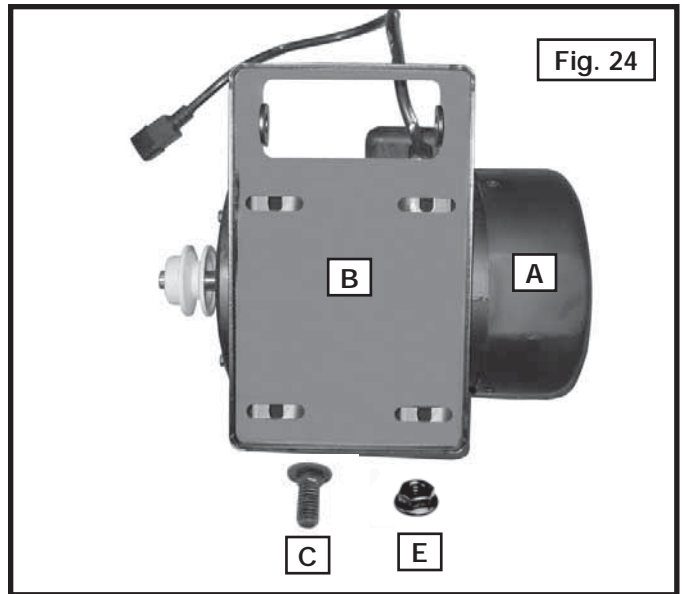

Fig. 24
Attach the motor (A) to the motor mounting plate (B) Fig. 24.
3. Position the belt and pulley guard bracket (I) Fig. 28, so that the motor pulley (K) is centered and through the hole in the belt and pulley guard bracket (I) Fig. 28. Tighten the four hex nuts (C) Fig. 24 that fasten the motor to the motor mounting plate.
⚠ WARNING: The motor end (N) Fig. 31 must be below the top of the table surface. Immediately after attaching the belt, raise the saw blade to its maximum height and tilt the saw blade 45°. Use a straight edge (M) Fig. 31 to see if the motor end (N) Fig. 31 is below the top of the table surface (O). If not, loosen the four hex nuts (F) Fig. 24, reposition the motor, and tighten the nuts. Re-align the motor pulley (K) Fig. 29 with the arbor pulley.